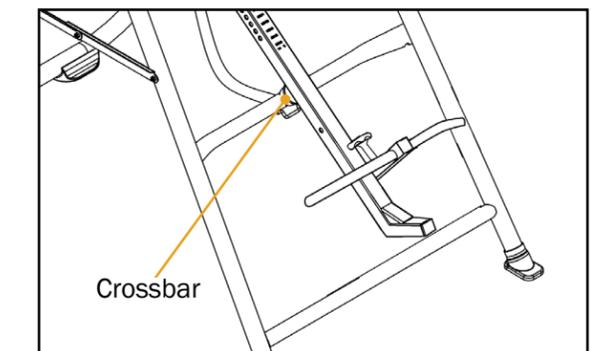

Figure 10
- The Main Shaft must rest against the crossbar of the A-frame (Figure 10). The crossbar prevents the table from rotating forward when the user steps on the Foot Platform. If the Main Shaft does not rest on the Crossbar as shown in Figure 10, then the Table Bed has been assembled backwards onto the A-frame and this must be corrected before use.